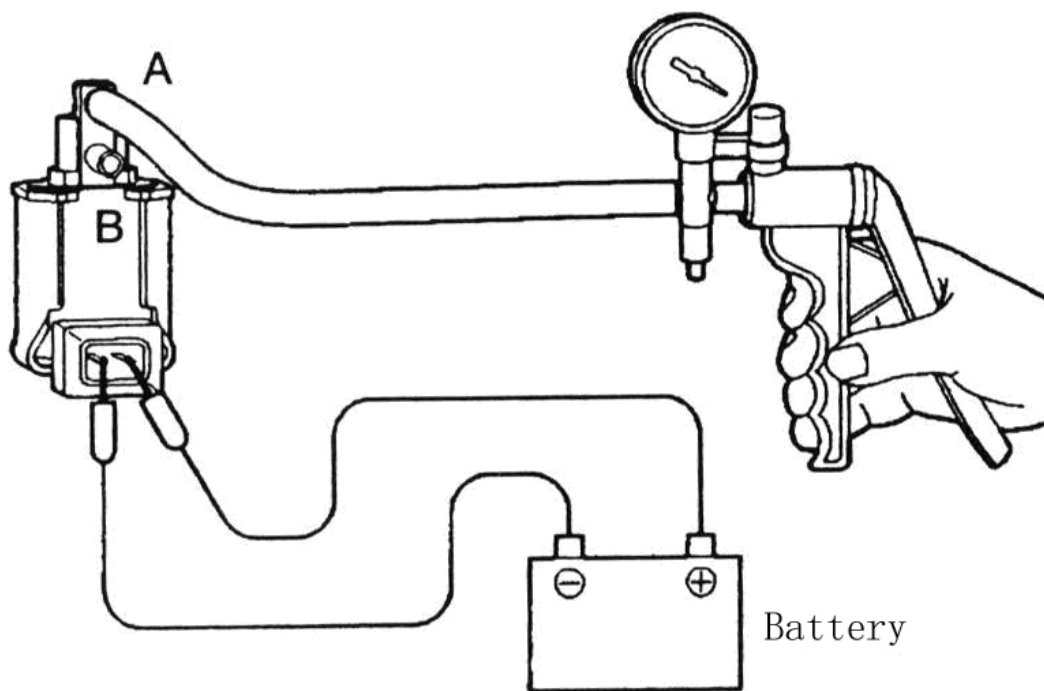

Fig. 10-12
- Connect a hand vacuum pump to nipple(A) of the solenoid valve, see Fig.10-12.